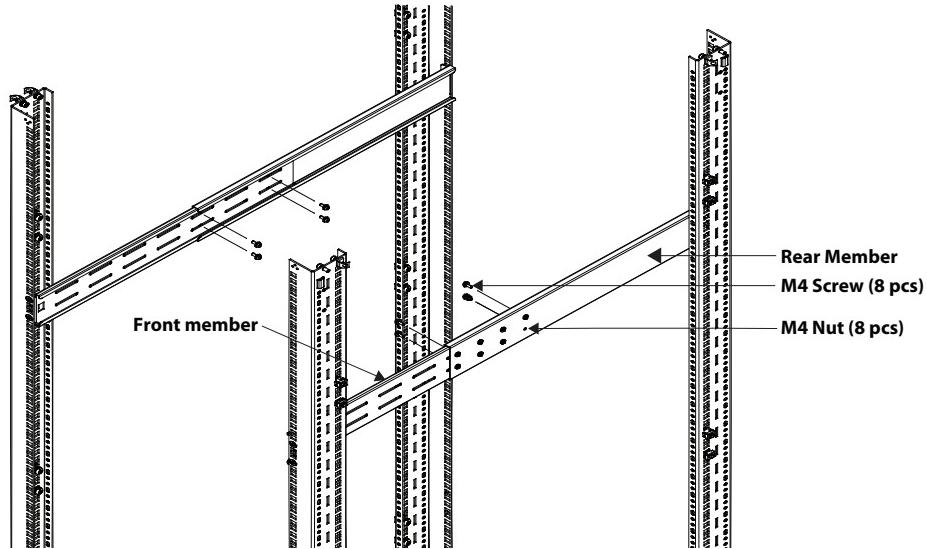

Figure 11: Fastening rear member and front member together
- Fasten rear member and front member together using four M4 screws and four M4 nuts (M4 nuts have been installed on the rear member before delivery) per bracket assembly as shown in Figure 11.